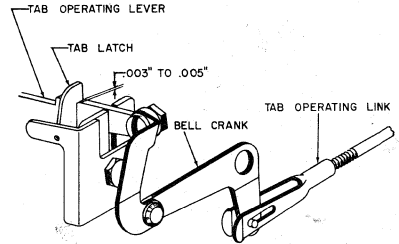

Figure 41
14. Hook up and adjust the tab operating link, by its rear clevis, so that under hand power the tab operating lever latches under the tab latch before the tab cam reaches the high point (Figure 41). At this point there should be two or three teeth visible on the lobe before the high point. Further rotation to the high point should give .003" over-latch. Under machine power this clearance will be greater. The tab lever must not touch the underside of the tab rack.